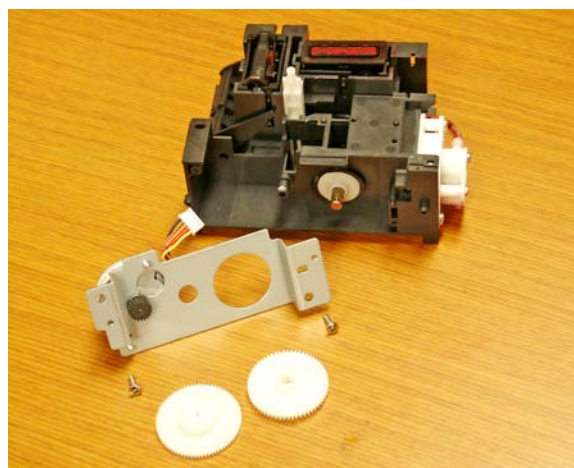

Figure 5-17E Purge Motor Removed
5. Remove two screws that secure motor mounting bracket to purge unit. See figure 5-17E, right.